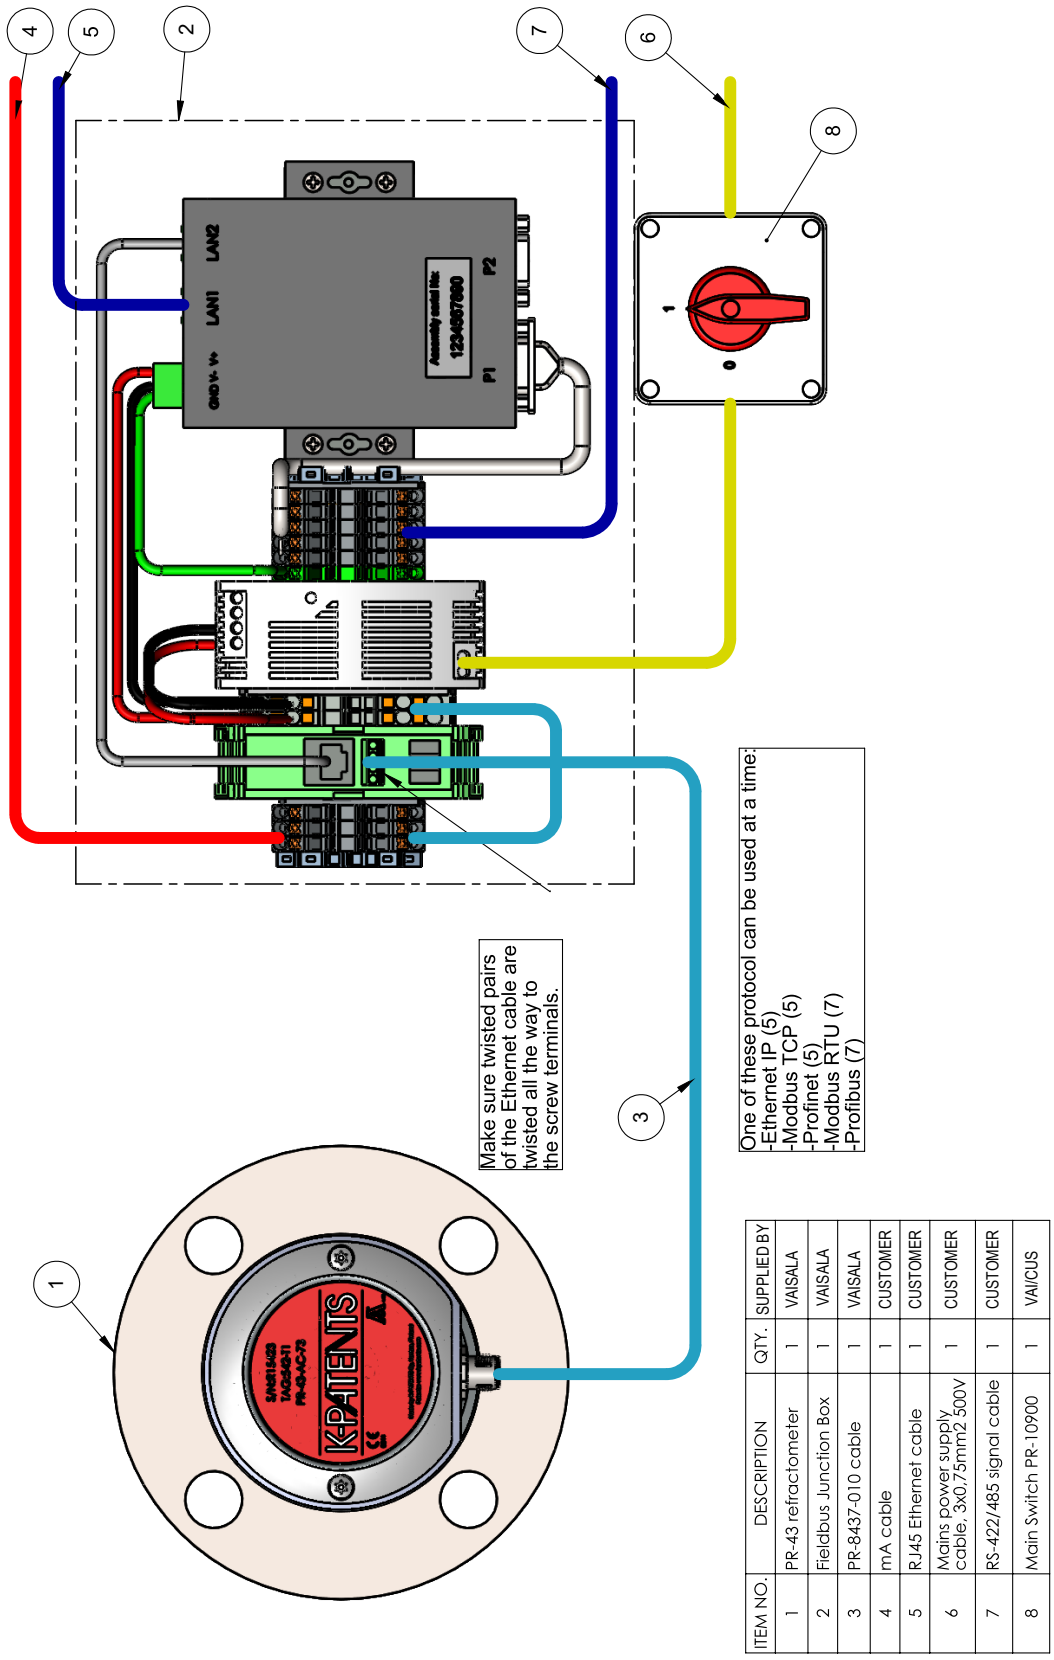

Figure 3.1 Connecting a PR-43 refractometer
**Note:** Vaisala recommend the user to install an external power switch for the fieldbus junction box, see figures 3.1, 3.2, 3.3, 3.4 and 3.5. The power switch should be placed near the junction box in an easily accessible location.